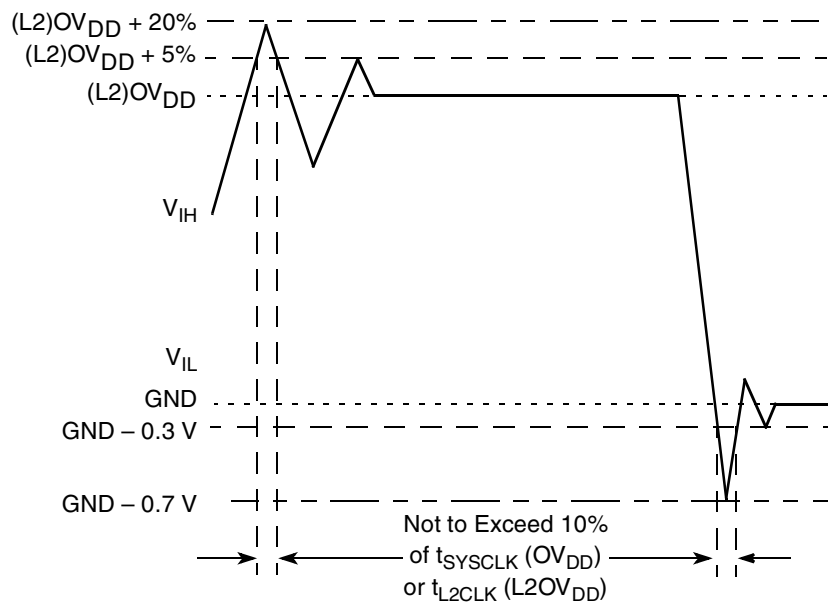

Figure 2. Overshoot/Undershoot Voltage
- $V_{in}$  may overshoot/undershoot to a voltage and for a maximum duration as shown in Figure 2.
Figure 2 shows the allowable overshoot and undershoot voltage for the MPC7410.